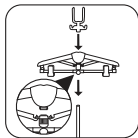

fig.9
3. Place the head support/hook on top of the pole and push down to secure. (fig.9)